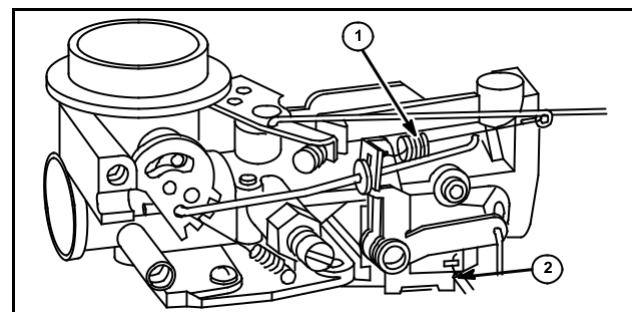

Fig. 92
4. Install governor spring (1). Install stop wire (2) and remote control where used, Fig. 92.